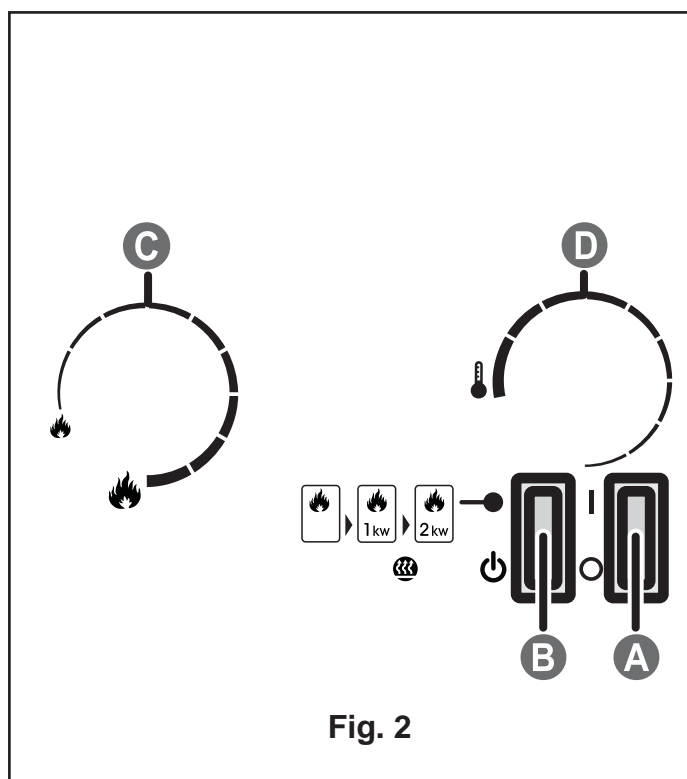

Fig. 2
1. Trykk bryter "A" til stillingen "AV" (0) (se fig. 2).
10. Trykk bryter "A" til stillingen "PÅ" (I) (se fig. 2).
The Opti-myst Manual controls are located beneath the hinged canopy cover. Raise the canopy cover to access the controls. (See Fig. 2 for Manual Control lay out)